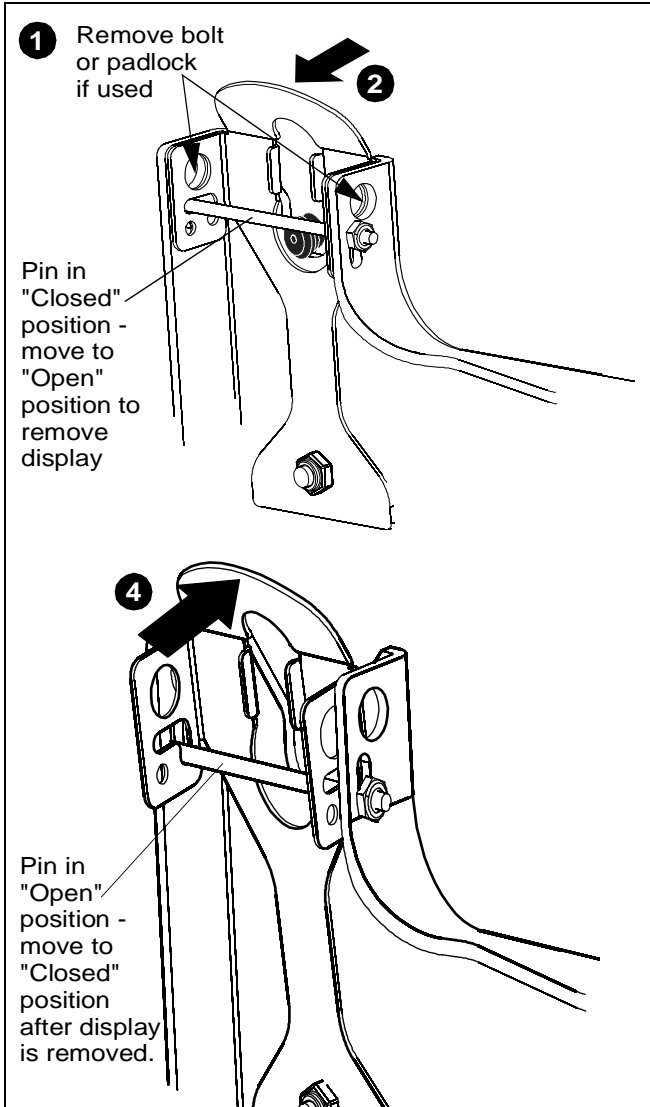

Figure 7
1. Remove bolt or padlock from faceplate (if used). (See Figure 7)
2. Pull back on flag on upper mounting hole and press pin down into "Open" position. (See Figure 7)
4. Lift up on pin and place flag back against faceplate to return it to "Closed" position. (See Figure 7)